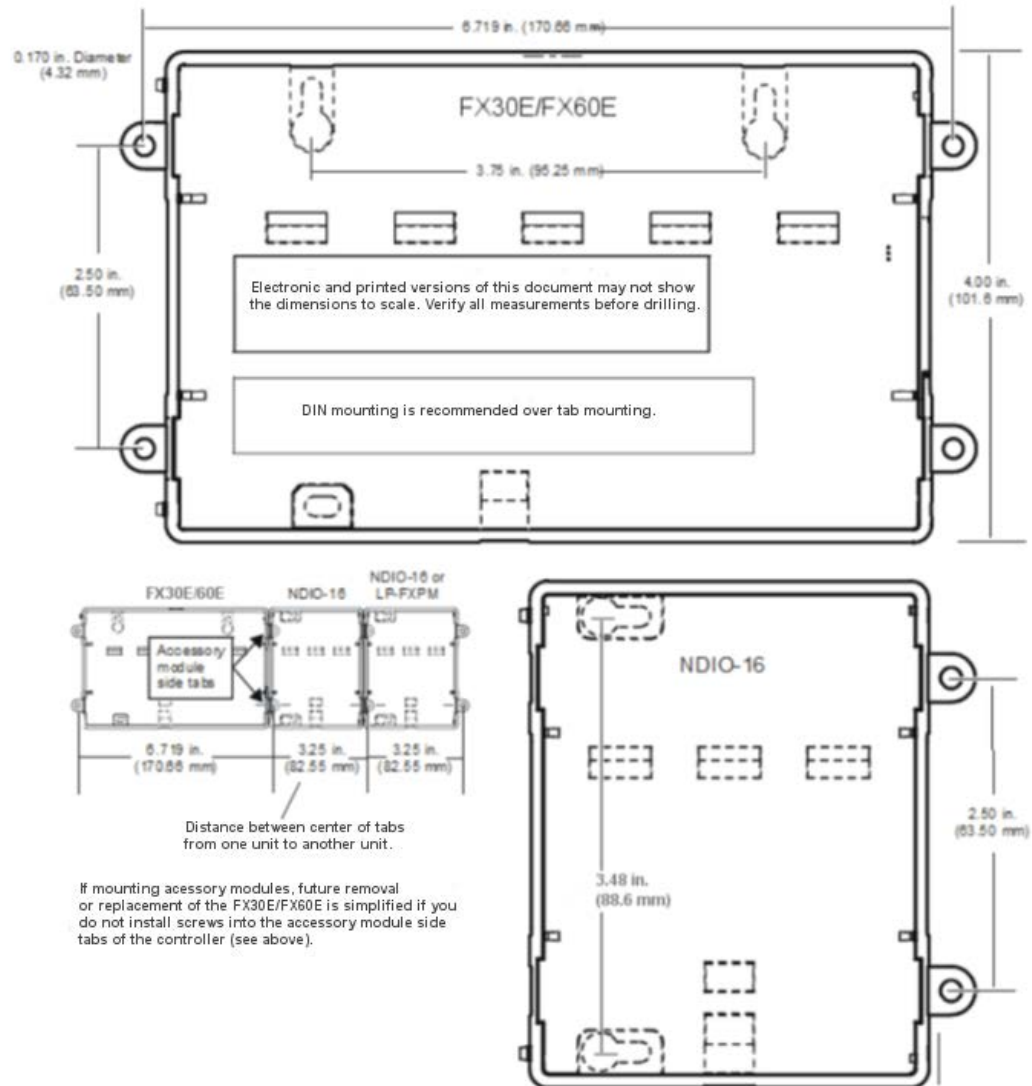
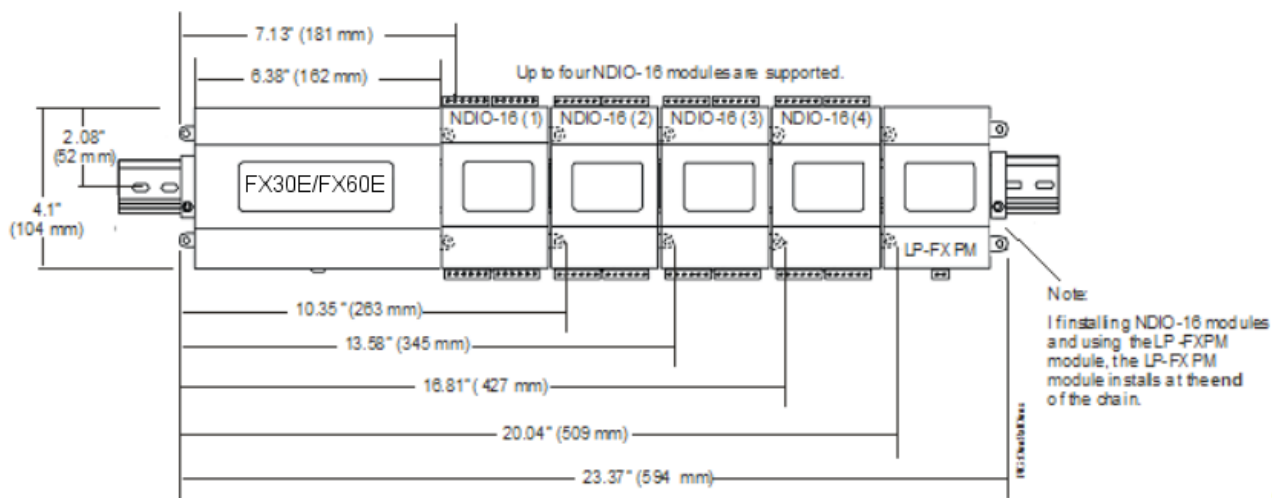

Figure 2: Tab Mounting Dimensions, in. (mm)
Figure 5: Mounting Accessories
Mount the FX30E/FX60E in a location that allows clearance for wiring, servicing, and module removal. For mounting details, see Figure 2 through Figure 5.
- If DIN rail mounting is impractical, use screws in mounting tabs on the FX30E/FX60E and in any end-connected accessory (power module, NDIO module). See Figure 2 for tab dimensions.
4. Mount the accessory modules (NDIO modules and power module) onto the DIN rail in the same manner (Figure 5). See Table 1 for quantities allowed.